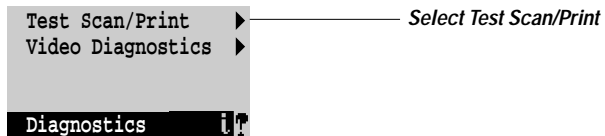

Figure 3-7 Test Scan/Print option
4. At the screen shown in Figure 3-7, select Test Scan/Print. The message Scanning from copier and printing.... is displayed.